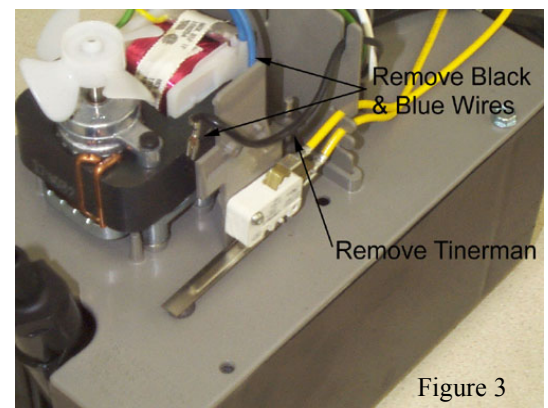

Figure 3
5. Note the position of the top tinerman, it's location 1/4 inches from the top of the float rod is important. Remove the top tinerman with pliers and discard. A new tinerman is included with your kit. Refer to figure 3.